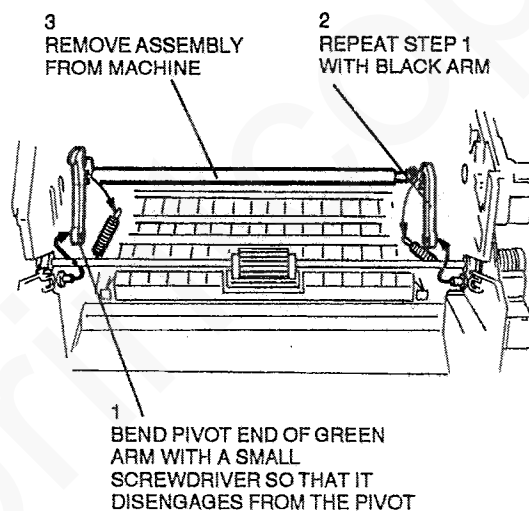

Figure 1. Pinch Roller Assembly removal
4. (Figure 1) Remove the pinch roller assembly.